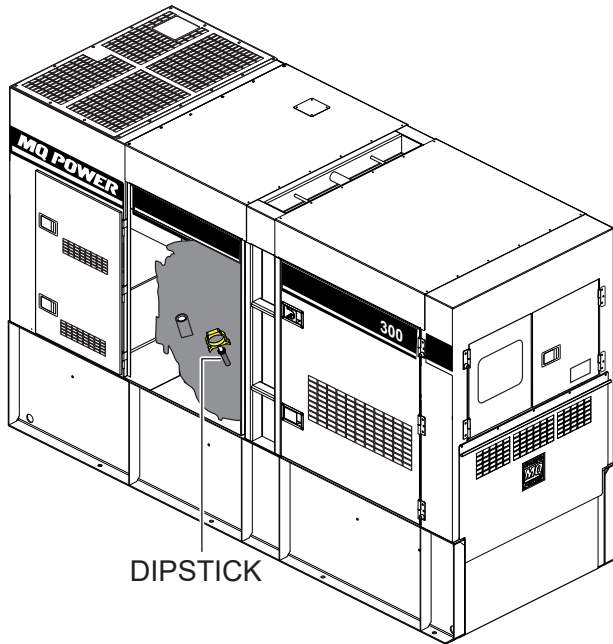

Figure 28. Engine Oil Dipstick Location
2. Remove the dipstick from its holder (Figure 28) and wipe it clean.